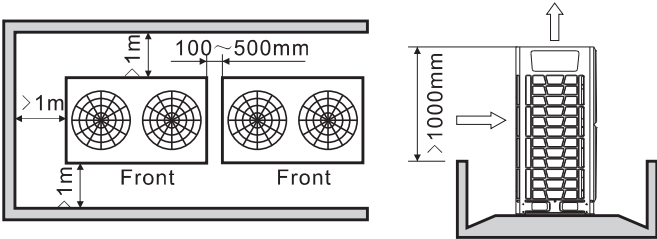

Fig. 3.10 1 row
4) When outdoor units are higher than surrounding barriers and they will be arranged in 2 rows, please see Fig.3.10.